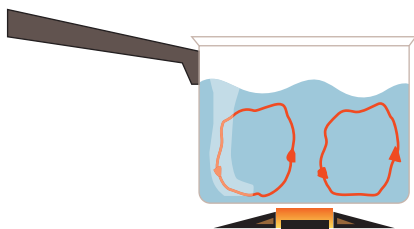

Figure 2.139 Convection
- ▶ Convection occurs in the water jacket, creating flows of internal coolant from the cylinder block to the cylinder head (Fig. 2.139).